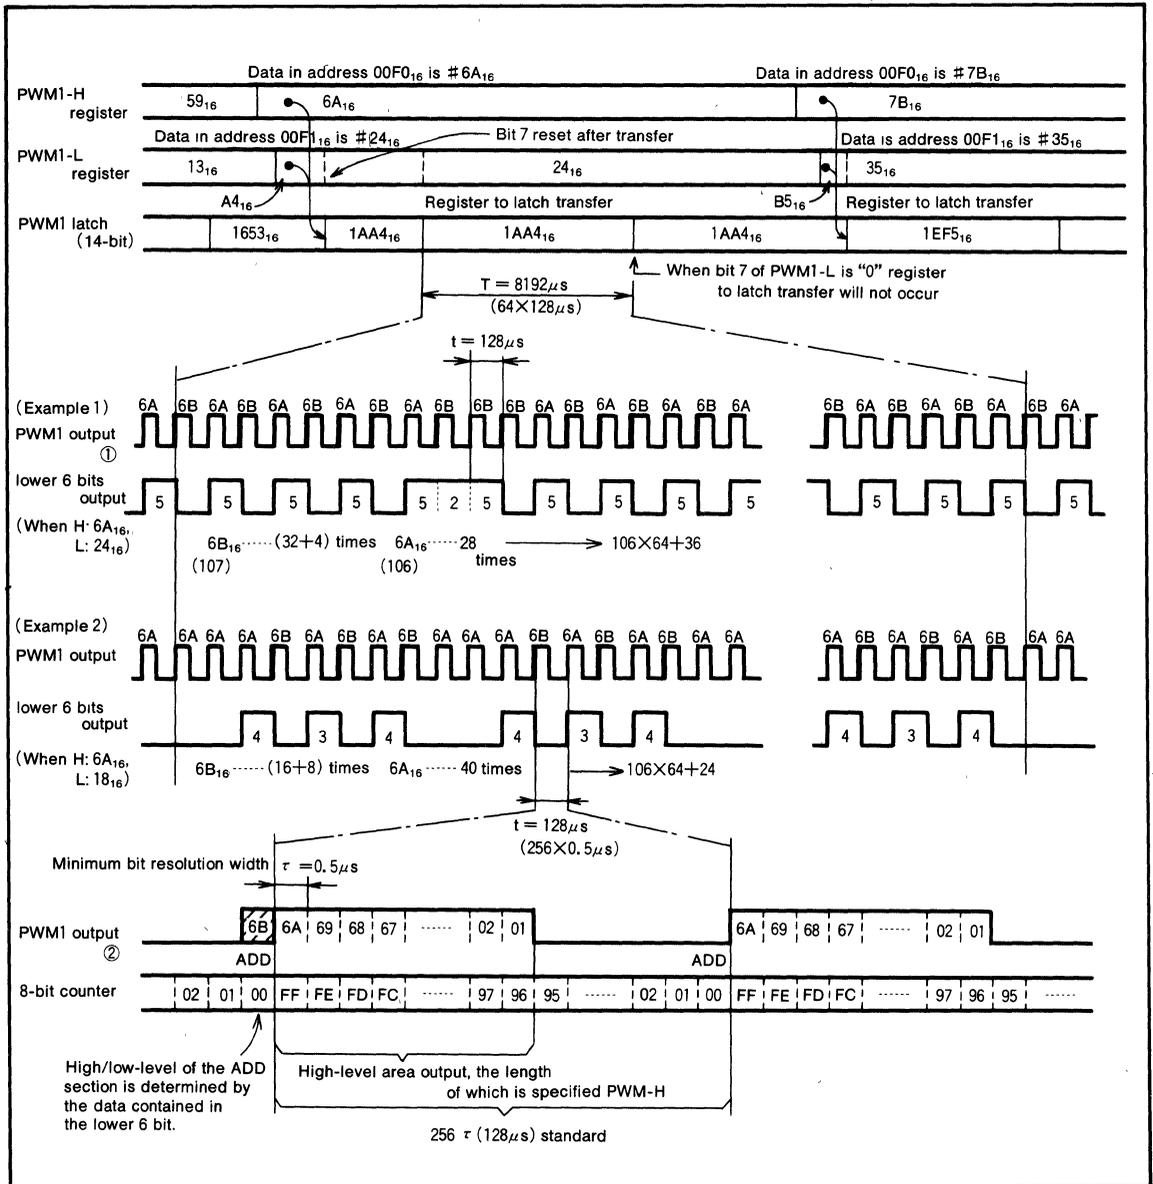

Fig. 15 14-bit PWM timing diagram
The timing diagram of the 14-bit PWM1 is shown in Figure 15. The 14-bit PWM divides the data within the PWM latch into the lower 6 bits and higher 8 bits.
A high-level area within a length N times τ is output every short area of $t = 256 \tau = 128 \mu\text{s}$ as determined by data N of the higher 8 bits. (Refer to PWM output ② in the lower part of Figure 15.)